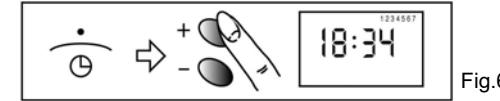

Fig.6
9 - Mode selector switch (see Fig.6 and Table 2 below)
- Turn the mode selector switch to the position (see Fig.6)